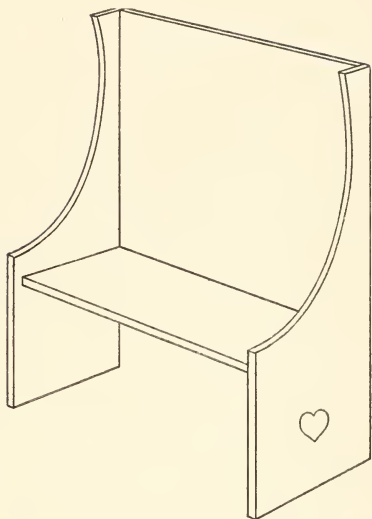

FIG. 269. — A Settee.
**The Settee** (Fig. 269) should have its sides cut by the pattern of Fig. 260. Make the back piece three and three-